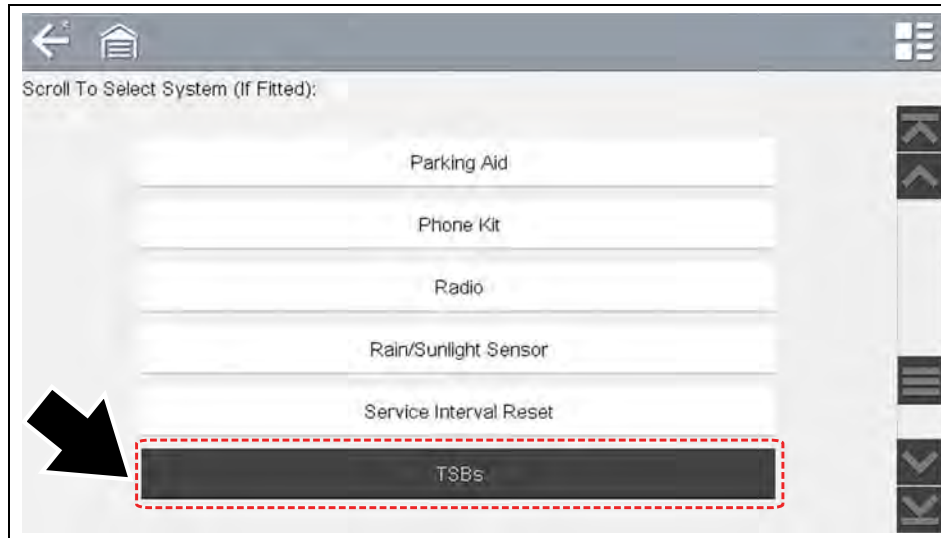

Figure 8-4 Scanner System Menu - TSBs Option
1. From within a current Scanner session select **TSBs** from the System menu (Figure 8-4).